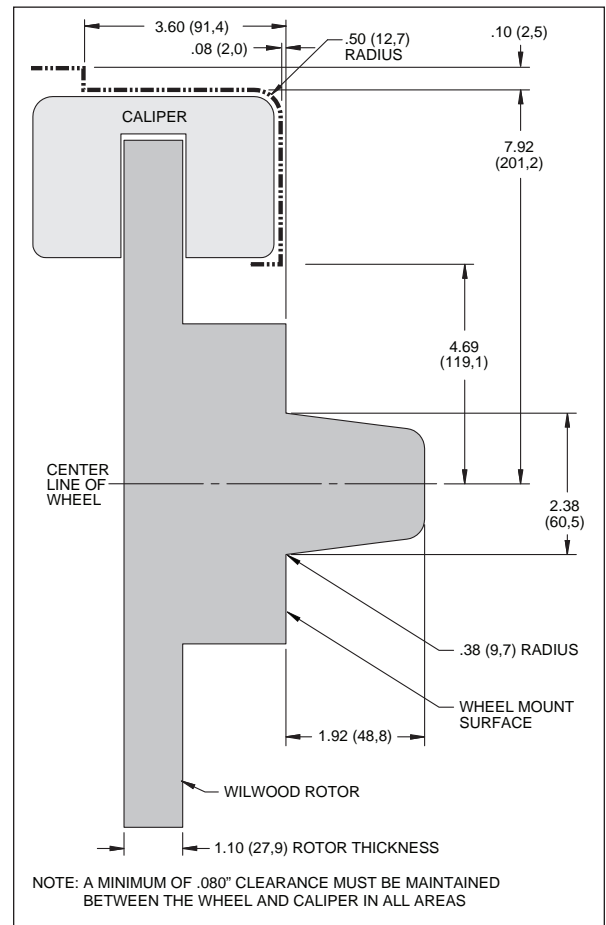

Figure 2. Wheel Clearance Diagram
- Review the wheel clearance diagram (figure 2, page 4) to verify that there is adequate clearance with the wheels you will be using with the installation.
- Verify your wheel clearance using figure 2.